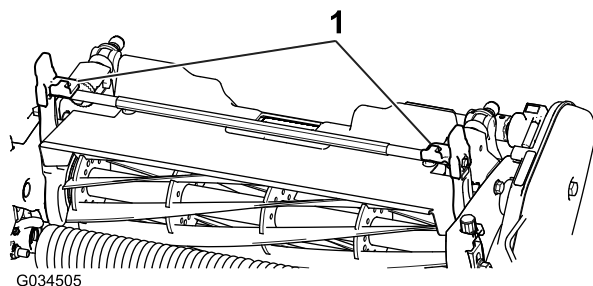
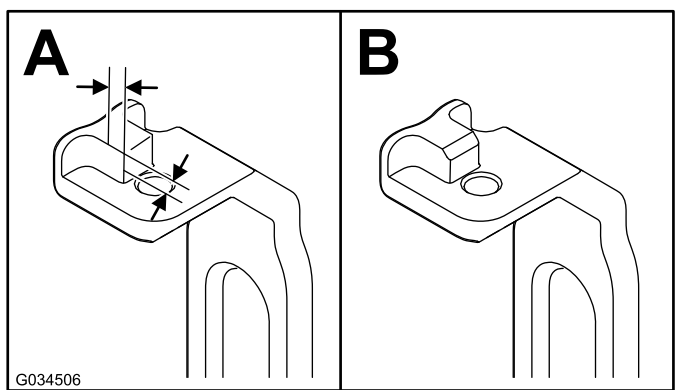

Figure 4
Figure 5
2. On both pitch arms (Figure 4), measure 2.3 mm (0.09 inch) in on the tabs and grind down the corner as shown in Figure 5.